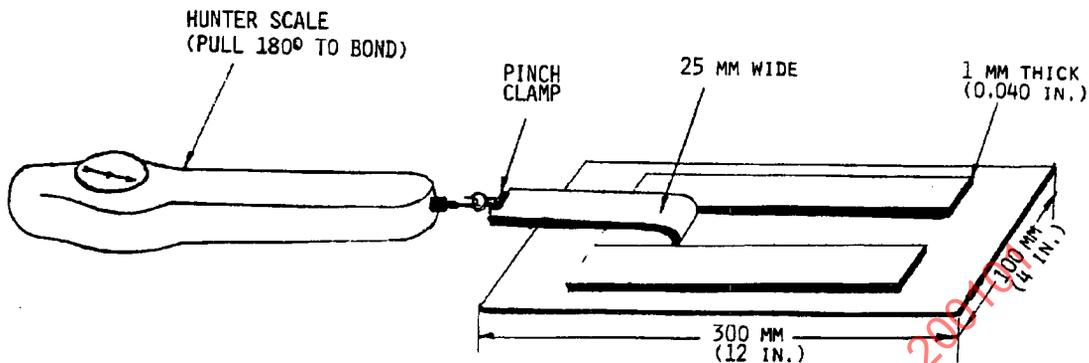

FIGURE 2—METHOD "B"
9. **Panel Preparation**—Method B (see Figure 2.)